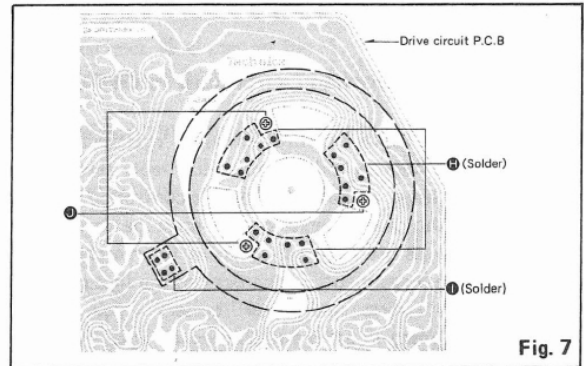

Fig. 7
12. Disconnect 18 soldered parts **H** of the stater coil and 4 soldered parts **I** of the F-G detector coil as shown in fig. 7.
13. Remove 3 screws **J** of the stater frame ass'y as shown in fig. 7.